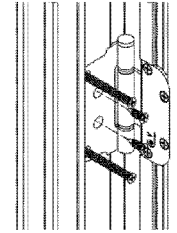

Figure 5
19. Attach each hinge leaf to frame jamb using two (2) #10 x 2-1/2" long fasteners and two (2) #10 x 1/2" hinge screws (provided in the parts bag). **See Figure 5**